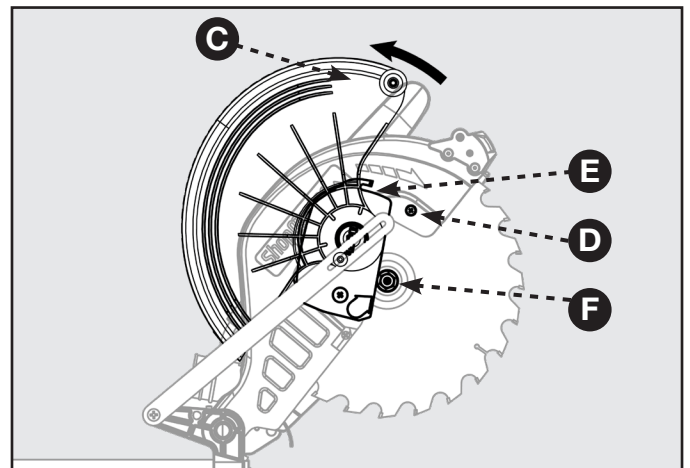

FIGURE 10
3. In Figure 10, Rotate the lower blade guard (C) up. Slightly loosen the blade bolt cover screw (D) until you can move the blade bolt cover (E) up to expose the blade bolt (F).